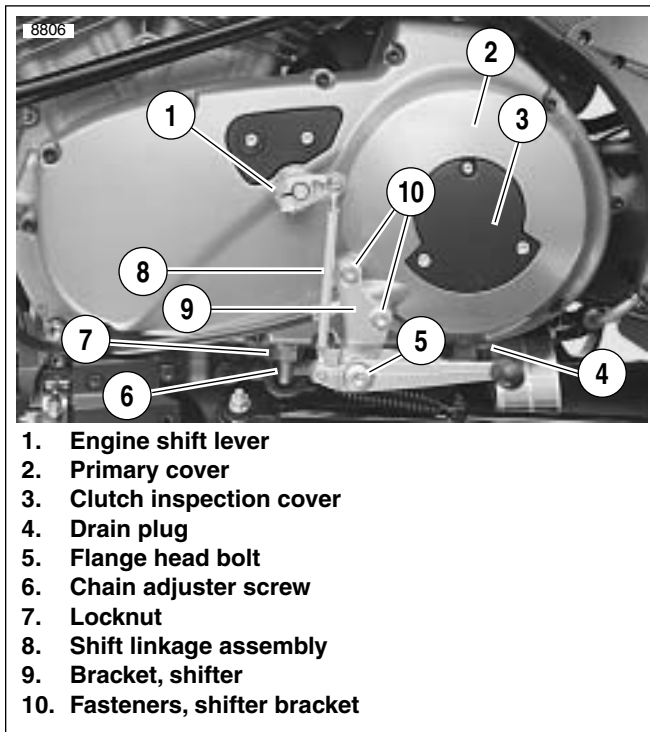

Figure 6-8. Removing Primary Cover
12. See Figure 6-8. Install shifter bracket (9) on primary cover (2) by applying loctite 272 (red) to fasteners and tightening to 22-24 ft-lbs (30-32.5Nm).
13. Install rubber washer and engine shift lever assembly (1).
16. If the shift linkage assembly (8) was removed for any reason, apply Loctite 272 (red) to fasteners and tighten to 36-60 in-lbs (4-6.8 Nm). Adjust to rider comfort.